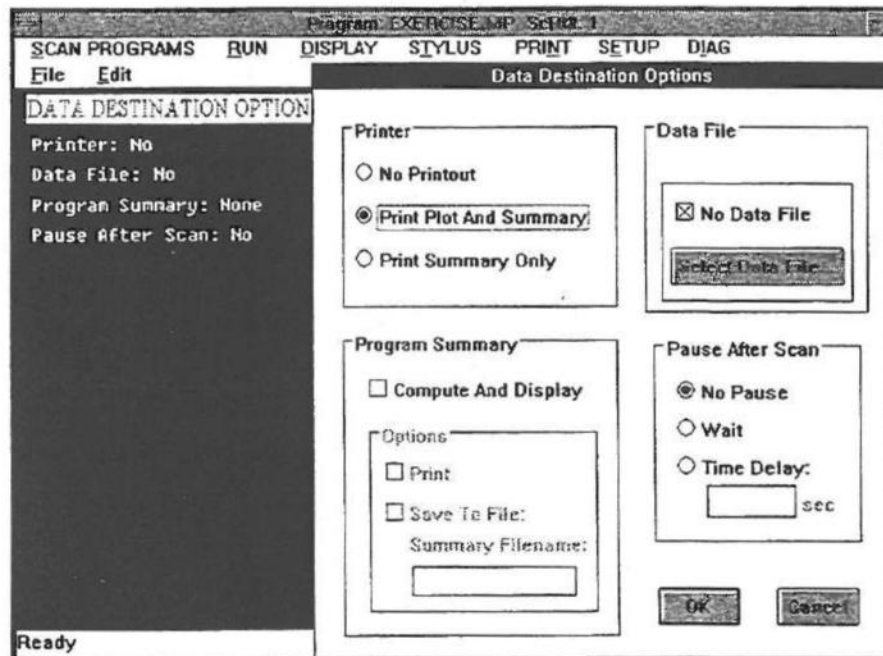

Figure 5 - 7 Printer Data Destination Option
1. Click on the Scan Programs menu and choose MULTI-SCAN PROGRAMS. The Data Destination Options window will appear (see Figure 5 - 7).